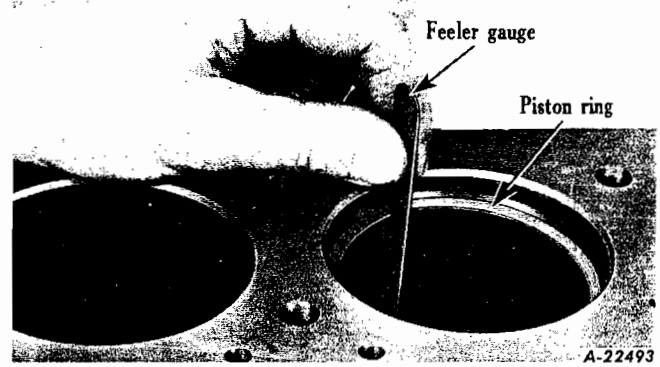

Fig. 40 - Checking ring gap.
2. Place piston and connecting rod in vise. Test each piston ring for proper gap by placing in cylinder and measuring gap with feeler gauge. Gap should be .016" to .026" (Fig. 40).